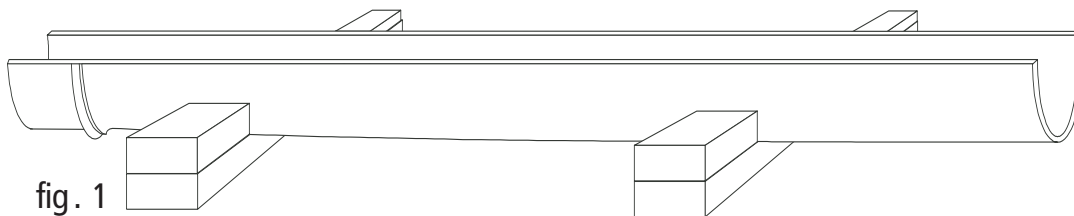

fig. 1
4. Lay column halves down, blocking well to prevent rolling (fig. 1). Prepare edges of column halves for application of adhesive, following adhesive manufactures directions.